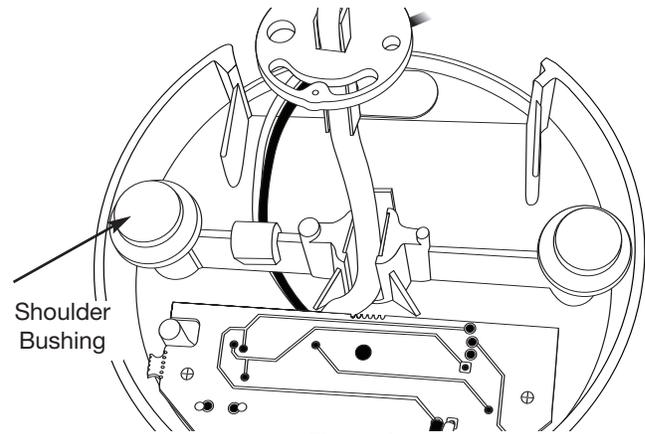
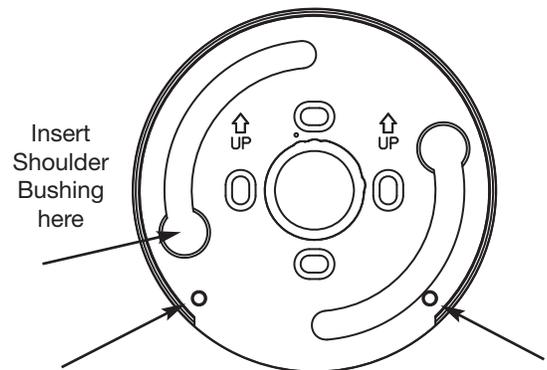

Figure 4
Figure 6
- It is important to make sure the cable will not rub on the dial plate after assembly, see *Figure 4*.
- 6). Place the shoulder bushing (*Figure 4*) in the holes of the dial plate (*Figure 6*) and rotate the keypad so that the keypad is aligned correctly.
- A click will be heard when the pin and springs snap into place in the two holes located on the dial plate, see *Figure 6*.